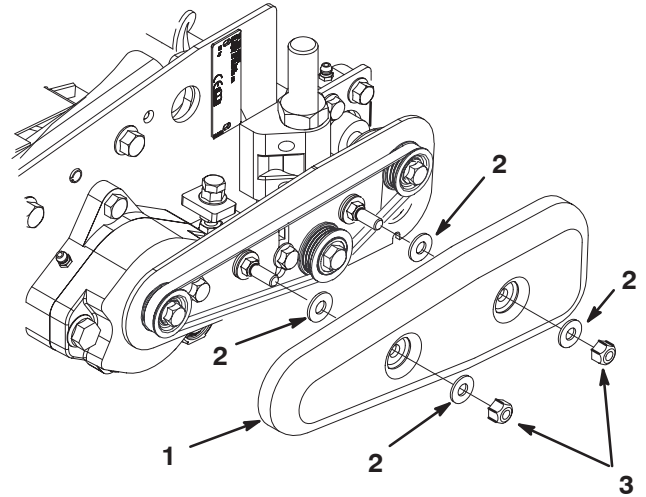

Figure 15
33. Insert a washer onto each cover mounting bolt (Fig. 15).
34. Slide belt cover onto mounting bolts and secure with (2) washers and lock nuts (Fig. 15). **Do not overtighten nuts as damage to cover may occur.**